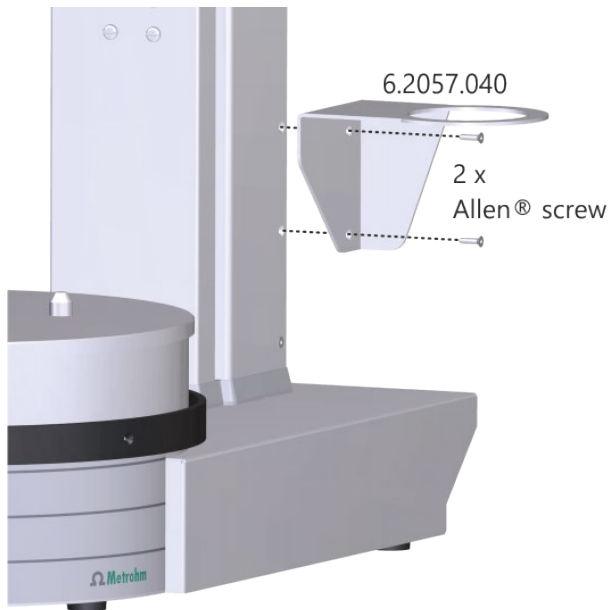

Figure 3. Mounting the holder for Dosino on the 858 Professional Sample Processor.
- Attach the holder for Dosino (6.2057.040) to the tower of the sample changer as shown in **Figure 3**. Use the Allen® screws provided in the scope of delivery of the holder and a 2 mm hex key.